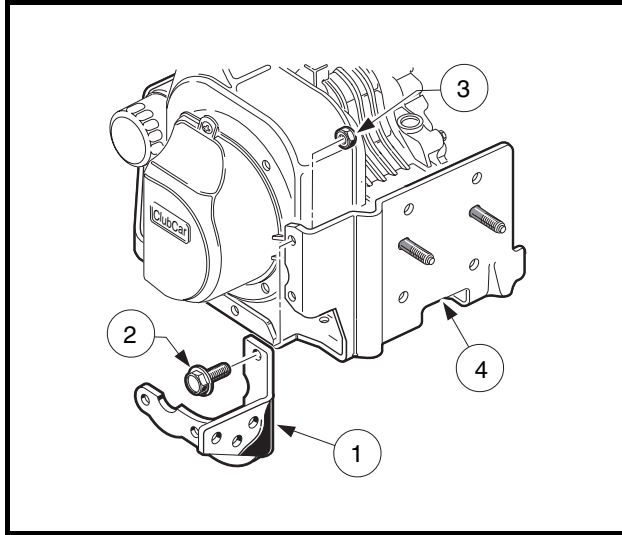

Figure 14-24 Stiffener Removal
5. Cut the wire tie holding the wire harness to the stiffener (1) and remove the bolts (2) and nuts (3) securing the stiffener to the mounting plate (4) (**Figure 14-24, Page 14-24**).
17. Secure the wire harness to the stiffener with a wire tie. Place the wire tie through the lower hole at the back of the stiffener (**Figure 14-24, Page 14-24**).